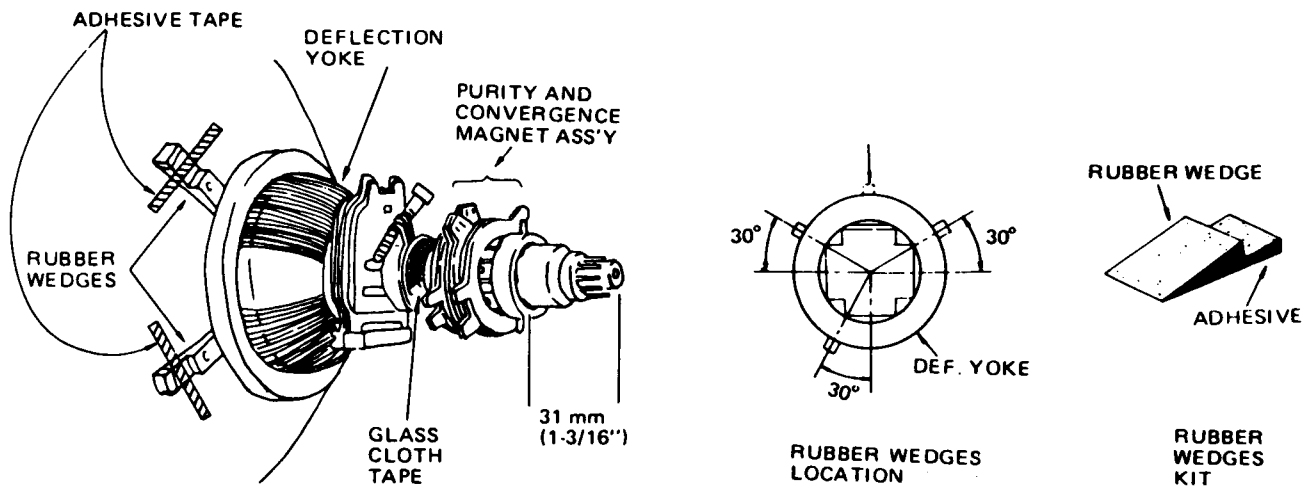

Figure 16. Tube Assembly
9. Place 3 adhesive tapes over wedges, as shown in Figure 16.